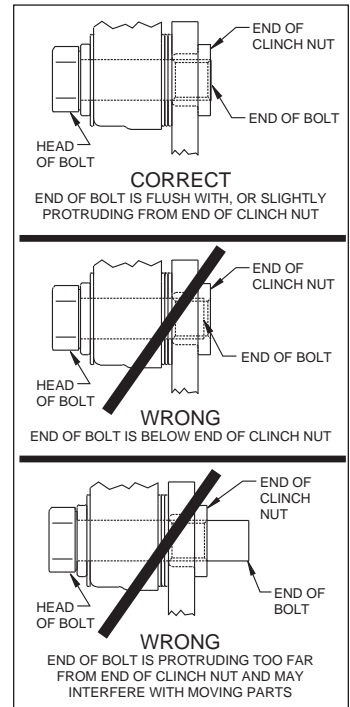

Figure 3. Clinch Nut
**Assembly Instructions** (numbers in parenthesis refer to the parts list and Figure 1 on the preceding pages): **CAUTION:** All mounting bolts must fully engage clinch nuts. Be sure to check that all bolts are either flush or protruding through flanged side of clinch nut after shimming, Figure 3.
- Slide the bearing spacer (12) onto the spindle. Ensure the larger diameter faces inward, Photo 7.
- Pack the small outer bearing cone (17) with high temperature disc brake bearing grease and install into hub (9). Slide the hub/rotor assembly onto the spindle. Secure using spindle washer (18) and OEM nut, Photo 8. **NOTE:** *The O.D. of the existing OEM spindle washer may be larger than the I.D. of the dust cap not allowing it to seat against the hub face. Therefore, use the spindle washer (18) supplied with the kit instead of the OEM washer.* Adjust bearings by tightening the wheel bearing nut to 60 **in-lbs.** while turning the hub/rotor assembly. Back off the adjusting nut one slot and install a new cotter pin (not supplied). **The resulting adjustment should be zero (no pre-load to 0.003 inch end play).**
- Install the o-ring (27) onto the dust cap (19). Press the dust cap into the hub (9), Photo 9.
- NOTE:** *Please reference the caution statement at the beginning of the assembly instructions.* Mount the caliper (20) onto the caliper mounting bracket (5) using bolts (21) and washers (22), as shown in Figure 1. Initially place two .035" thick shims (23) on each bolt between the caliper and the bracket, Photo 10. Temporarily tighten the mounting bolts and view the rotor (14) through the top opening of the caliper. The rotor should be centered in the caliper, Photo 11. If not, adjust by adding or subtracting shims between the bracket and the caliper. Always use the same amount of shims on each of the two mounting bolts. **NOTE:** *The end of each bolt must be flush with or slightly protruding from the head of the clinch nut, as shown in Figure 3.* If necessary place spare shims between washer (22) and caliper mounting ear to achieve the proper clinch nut engagement. Once the caliper alignment and clinch nut engagement are correct, remove the bolts one at a time, apply red *Loctite*® 271 to bolt threads, and torque to 40 ft-lb.
- Install the disc brake pads (24) into the caliper, with the friction material facing the rotor (14), and secure in place using cotter pin (25), Photo 12.